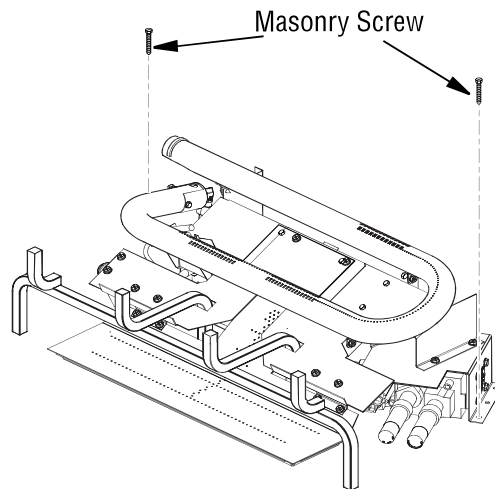

Figure 11 - Attaching Base to Fireplace Floor
3. Mark screw locations through holes in front panel of base (see *Figure 11*). If installing in a brick-bottom fireplace, mark screw locations in mortar joint of bricks.
6. Attach base, through holes in back side panels of base, to fireplace floor using masonry screws provided in hardware package (see *Figure 11*).